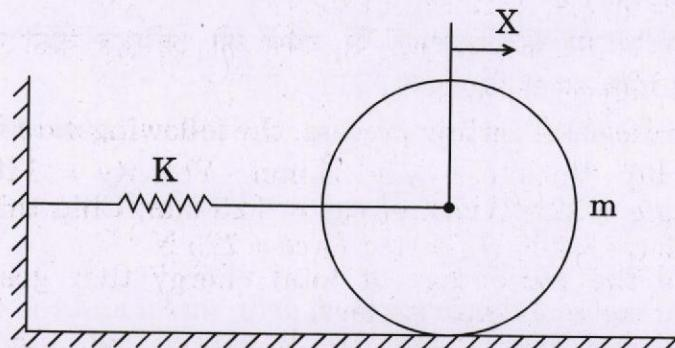

Figure 4(c)
A circular cylinder of mass 4 kg and radius 15 cm is connected by a spring of stiffness 4000 N/m as shown in Figure 4(c) given below. It is free to roll on a horizontal rough surface without slipping. Determine the natural frequency.
3. In Fig. 4(c), if the cylinder rotates about its center, then the center will move in simple harmonic motion.